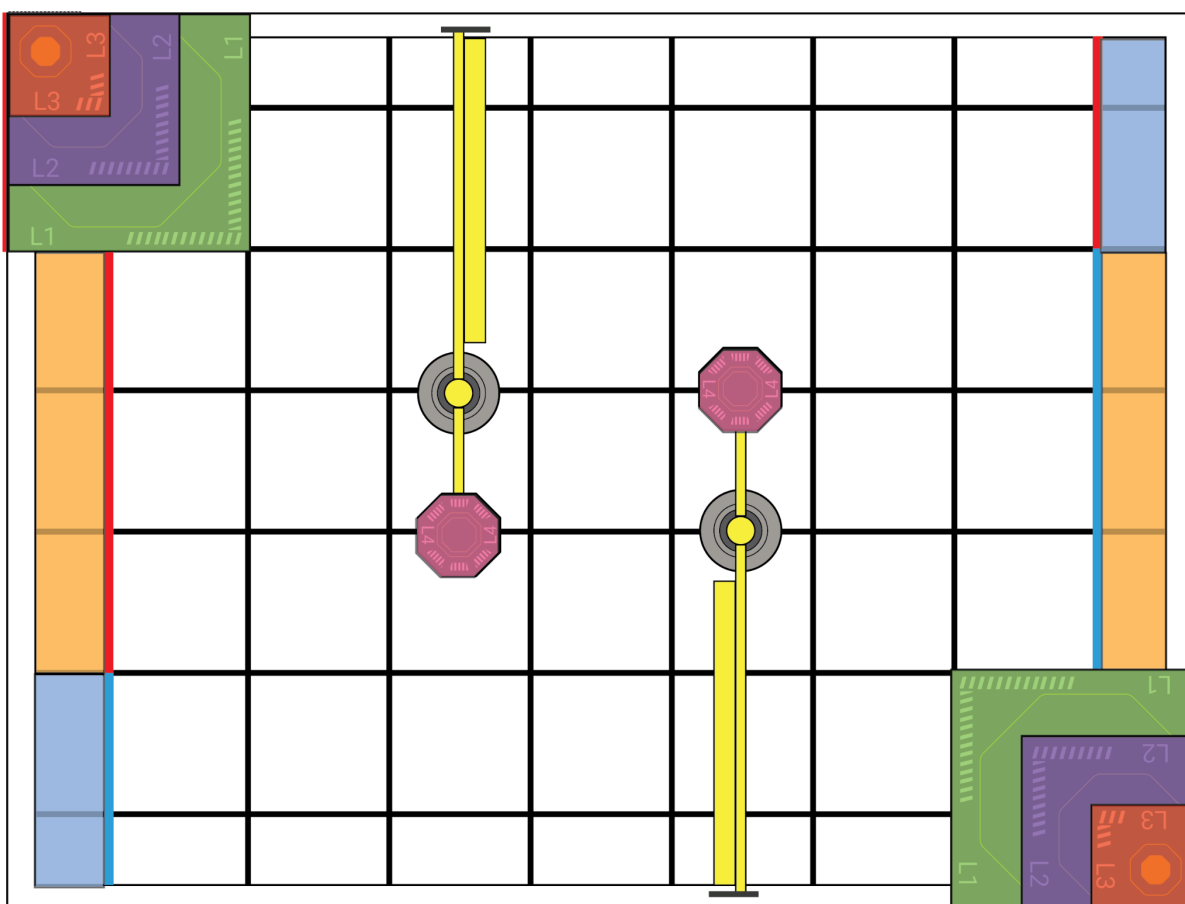

Figure 1.5.2
- **Floor Goal** - A scoring location that consists of a vertical projection above a defined area of the field bordered by the inside of the field perimeter and the inside edges of the adjacent VEX IQ® parts; the floor goals are highlighted in orange in figure 1.5.2
- **L1, L2, or L3 Goal** - A scoring location that consists of a vertical projection above a labeled plastic sheet on one of the two tiered plastic structures on the field, marked as L1, L2, or L3; L1 goals are highlighted in green in figure 1.5.2, L2s are in purple, and L3s are in red
- **L4 Goal** - A scoring location that consists of a vertical projection above a flat plastic surface, marked as L4, attached to the top of a vertical PVC segment; the L4 goals are highlighted in pink in figure 1.5.2
- **Load Zone** - A section of the field, bordered by the inside of the field perimeter and the inside edges of the adjacent VEX IQ® parts, where drive team members can place team-loaded bean bags (see rule 3.3.4); the load zones are highlighted in blue in figure 1.5.2
Figure 1.5.2 highlights the following defined goals and zones: